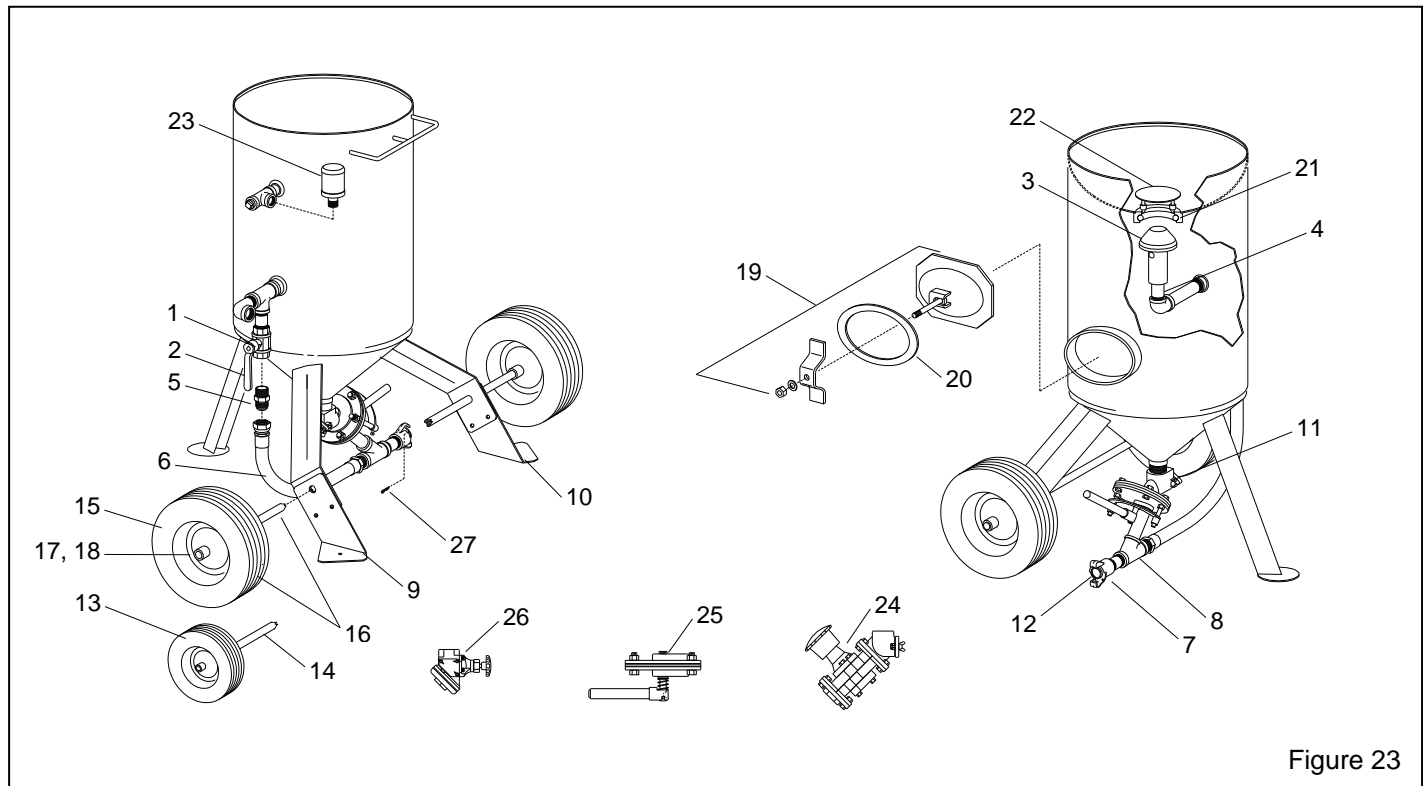

Figure 23
7.5 Blast Machine and Accessories, Figure 23